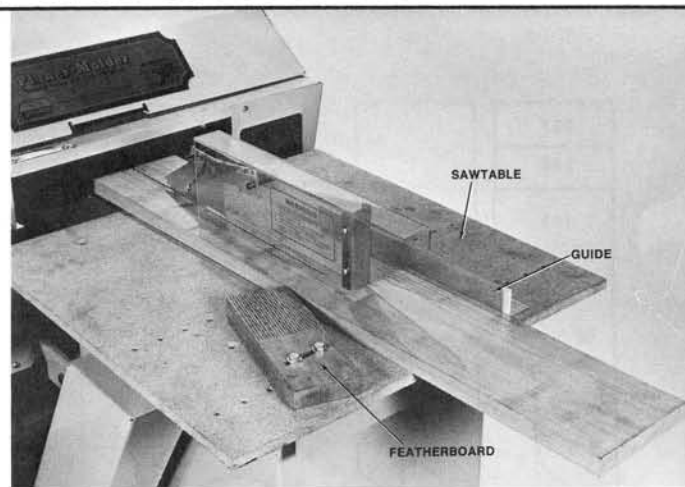

FIG. 93
7. Some lumber will have a tendency to wander away from the guide. If this is happening, reposition the guide on the other side of sawblade to prevent the wandering. Also the use of a homemade featherboard (see FIG. 93) will help prevent wandering. How to make a featherboard is discussed on page 33.